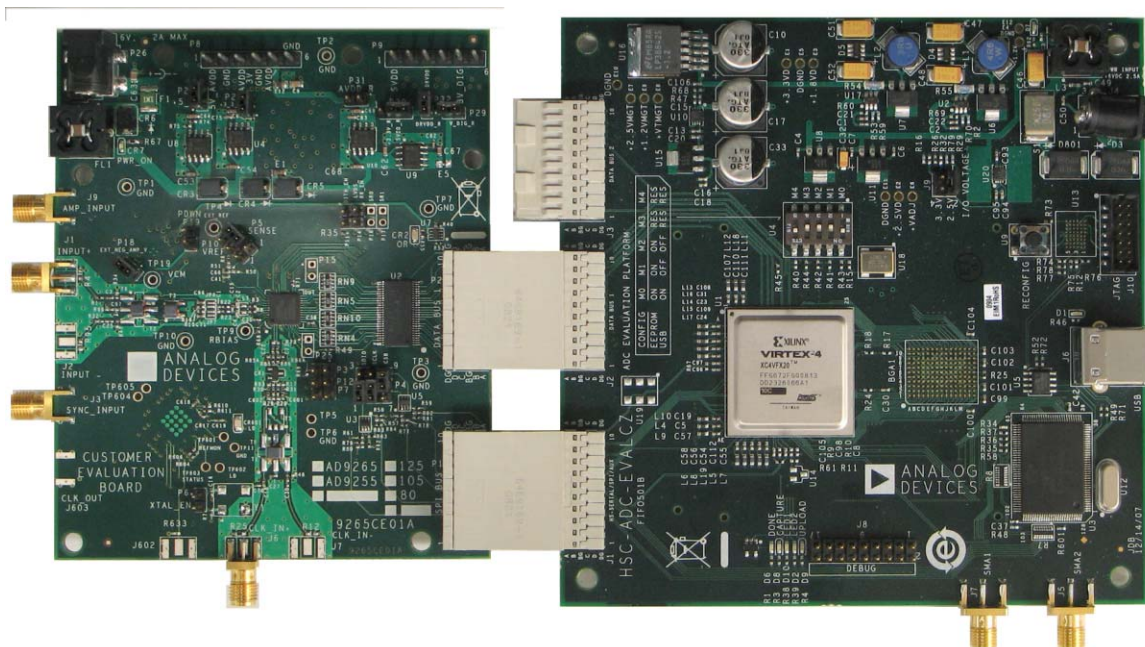
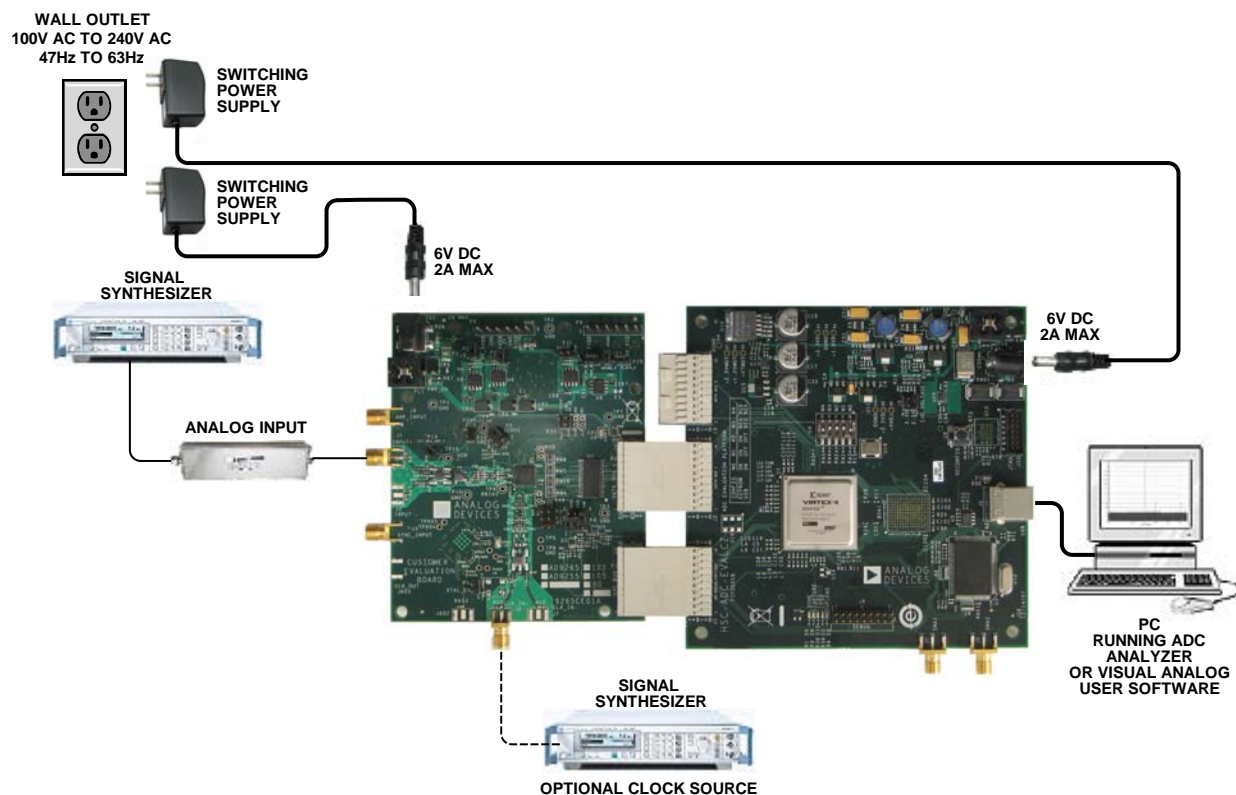

Figure 1. AD9265 and AD9255 Evaluation Board and HSC-ADC-EVALCZ Data Capture Board
Figure 2. Evaluation Board Connection
The AD9265 and AD9255 evaluation board provides all of the support circuitry required to operate these parts in their various modes and configurations. Figure 2 shows the typical bench characterization setup used to evaluate the ac performance of the AD9265 or AD9255. It is critical that the signal sources used for the analog input and clock have very low phase noise (<1 ps rms jitter) to realize the optimum performance of the signal chain. Proper filtering of the analog input signal to remove harmonics and lower the integrated or broadband noise at the input is necessary to achieve the specified noise performance.
1. Connect the evaluation board to the data capture board, as shown in Figure 1 and Figure 2.